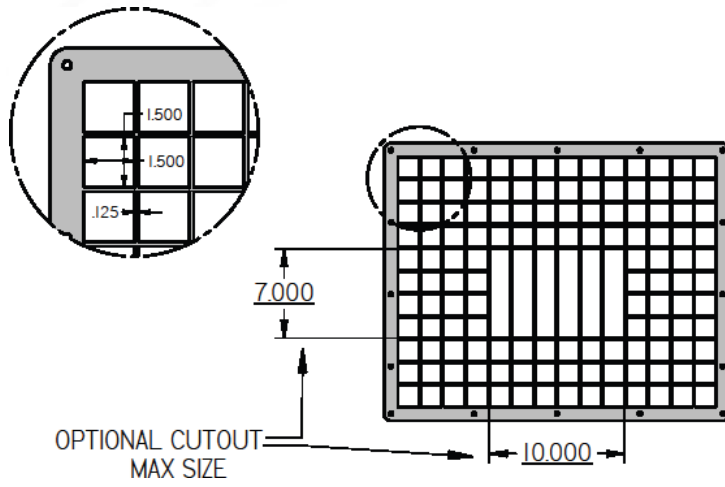

FIG 7
- O. Mud flaps are required and must extend from 6 inches above center line of rear axle to 3 inches from ground at ride height. See diagram on FIG 7